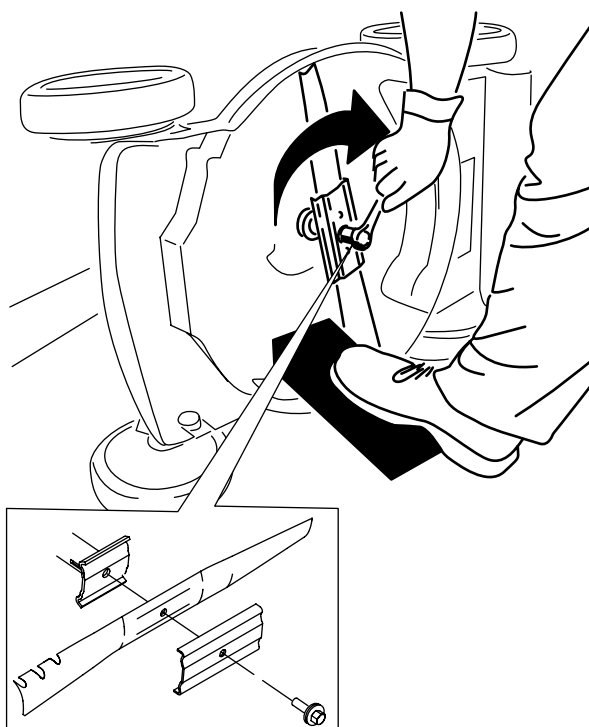

Figure 24
5. Install the new blade and all mounting hardware (Figure 24).